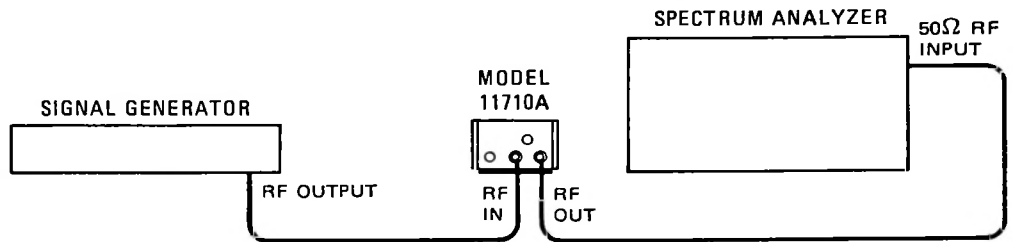

Figure 6. Performance Test Setup
- a. Connect equipment as shown in Figure 6. Set Down Converter selection switch to .5–1024 MHz.